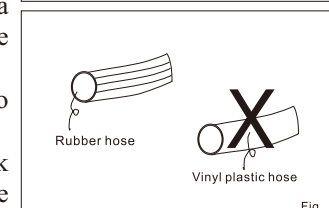

Fig. 4
- Use only a rubber hose. do not use a vinyl plastic hose, as this can be dangerous. (Fig. 4)